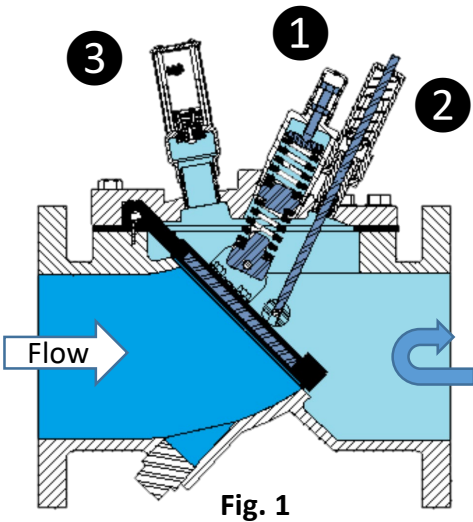

Fig. 1
- **Start-up:** The Valve position Indicator (see number 2 in Fig. 1) will move upward and show that the valve disc is opening allowing flow.
- **Shut-Down:** The Valve position Indicator (see number 2 in Fig. 1) will move down and show that the valve disc is closing flow. The Assisted Spring Closing (see number 1 in Fig. 1) will accelerate the valve disc closing and at the same time, the Vacuum Breaker (see number 3 in Fig. 1) will open reducing vacuum in the downstream piping system minimizing hydraulic shock (water hammer).